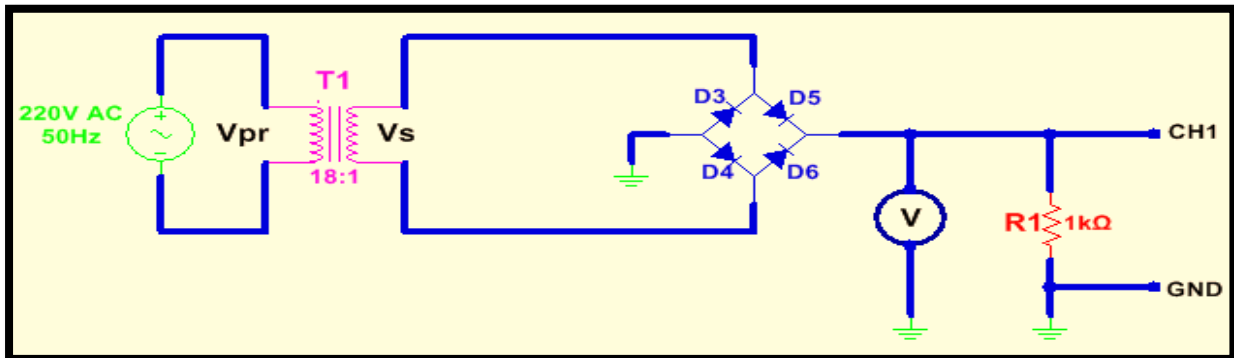

Figure 12: The Practical Full-Wave Bridge Rectifier Circuit
7. Connect the full-wave bridge rectifier circuit shown in Fig.12. Measure the DC output voltage, and the peak value of the output voltage as tabulated in Table 5. Sketch the output waveform in this case. It should be noted that the secondary winding waveform in this case is similar to that of the center-tapped full-wave rectifier.